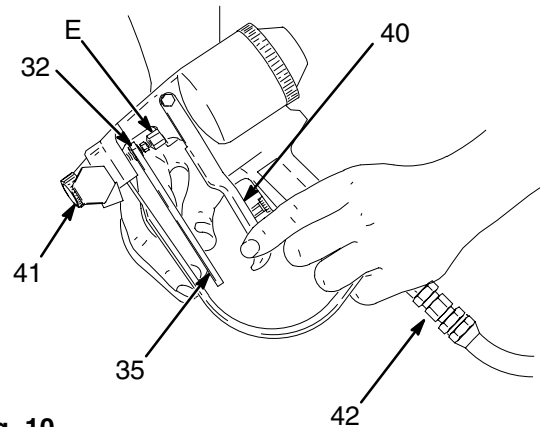

Fig. 10
Be sure the trigger safety (40) is locked before proceeding, to reduce the risk of serious injury from injection. See Fig. 10.
12. Screw on the air cap (41). Connect the air hose of the heated hose assembly to the inlet bushing (42) of the gun. See Fig. 10.
13. Use the 7/16" end of wrench (35) to adjust the packing nut (32) until it is *just snug*. Don't overtighten it! See Fig. 10.
14. Install the plastic shield (43) around the exposed part of the needle assembly (E) to keep foam overspray from collecting on the needle. See Fig. 10.